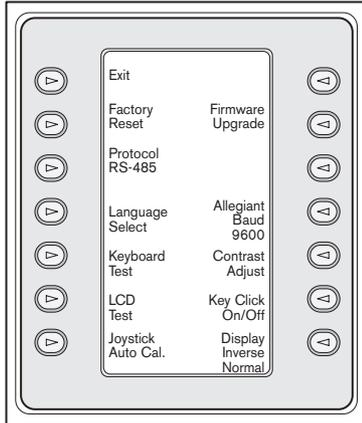

FIGURE 3-3 Keyboard Control Menu
3. The Softkey Display shows the **Keyboard Control** main menu (see FIGURE 3-3). A review of the *Keyboard Control* menu options follows.